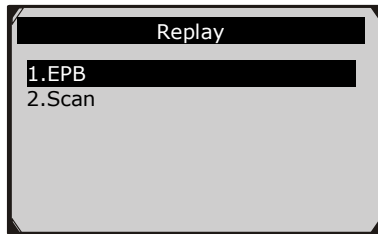

Figure 4.1
- 1) Use the **LEFT/RIGHT** scroll button to select **Playback** from **Main Screen** (Figure 3.1), and press the **OK** button. Wait for the **Scan** screen to appear. (Figure 4.1)